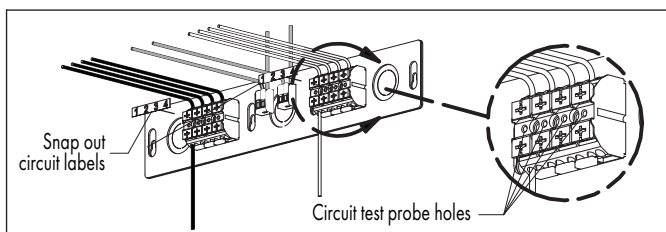

FIG 26.4 Accessing Circuit Probe Holes
STEP 3 Check circuit continuity using holes in terminal blocks - **FIG 26.4**.